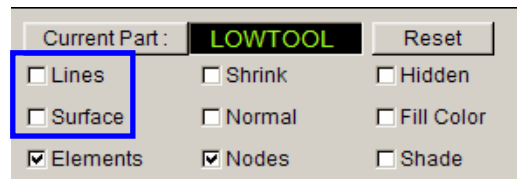

Figure 4.21 Display options
5. Toggle off the checkbox of **Lines** and **Surfaces** in **Display Options** located at the lower right side of screen. See Figure 4.21.